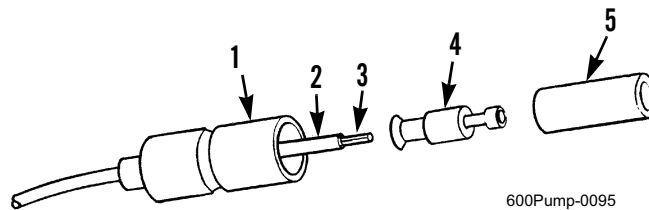

Figure 3. Military Connector Repair.
1. Slide shell (Figure 3, Item 1) back on wire (Figure 3, Item 2) to expose sleeve (Figure 3, Item 5).
2. Remove sleeve (Figure 3, Item 5) from terminal (Figure 3, Item 4) by pulling sleeve forward.
3. If defective, remove terminal (Figure 3, Item 4) from wire (Figure 3, Item 2) by cutting through wire just behind terminal.
4. Using wire stripping tool, strip insulation from wire (Figure 3, Item 2) to expose length of metal strands (Figure 3, Item 3) equal to depth of terminal (Figure 3, Item 4).
5. Using crimping tool, securely crimp terminal (Figure 3, Item 4) to metal strands (Figure 3, Item 3) of wire (Figure 3, Item 2).
6. Install sleeve (Figure 3, Item 5) on terminal (Figure 3, Item 4) by pushing sleeve over front of terminal until fully seated.
7. Slide shell (Figure 3, Item 1) up wire (Figure 3, Item 2) and over sleeve (Figure 3, Item 5).